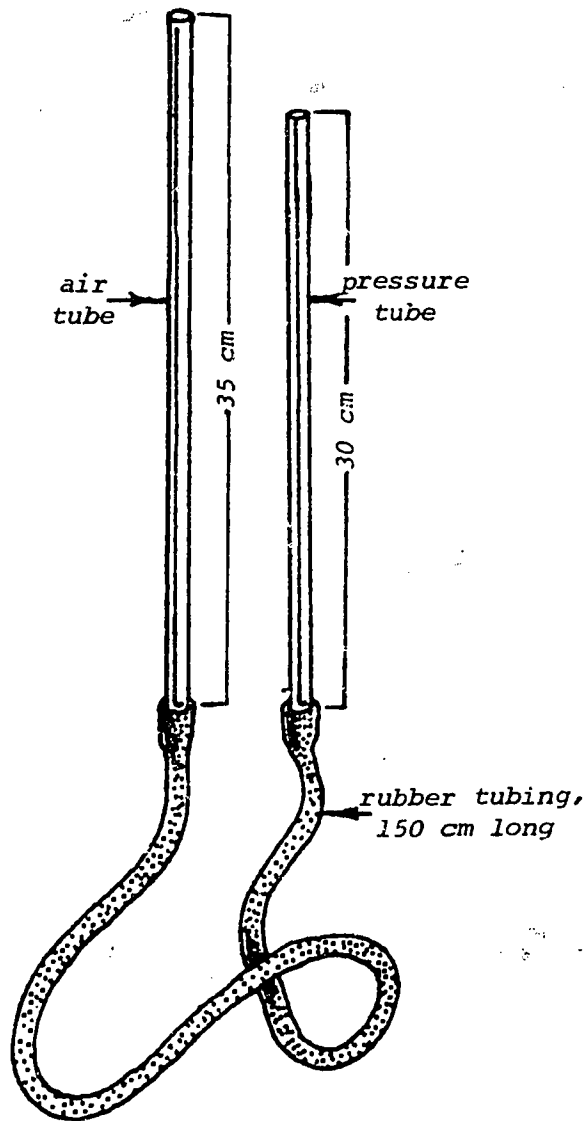

FIGURE 1: *Initial assembly of the apparatus.*
2. Begin assembly of the apparatus by attaching a piece of glass tubing to each end of the rubber tubing. The longer glass tube will contain the trapped air sample and will be called the air tube. The shorter glass tube will be used to change the pressure on the trapped air and will be called the pressure tube. See Figure 1 on the following page.
4. With the two tubes held in the position shown in Figure 1, continue adding fluid to the pressure tube until the fluid level is approximately 20 cm from the top of the air tube.